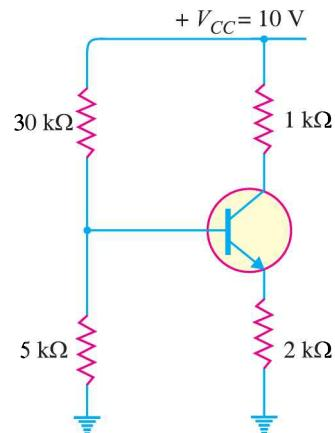

Fig. 9.51
8. In a transistor circuit shown in Fig. 9.51, find the operating point. Assume silicon transistor is used. $I_C = 0.365mA$, $V_{CE} = 8.9V$